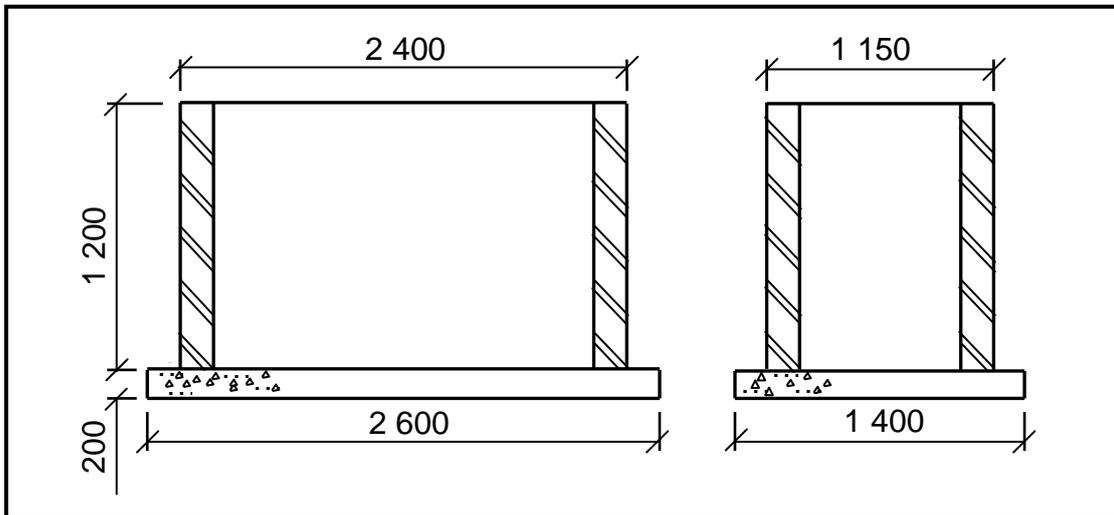

FIGURE 3.7
3.7 FIGURE 3.7 below shows an incomplete sectional view through the bricks and concrete floor slab of a manhole.